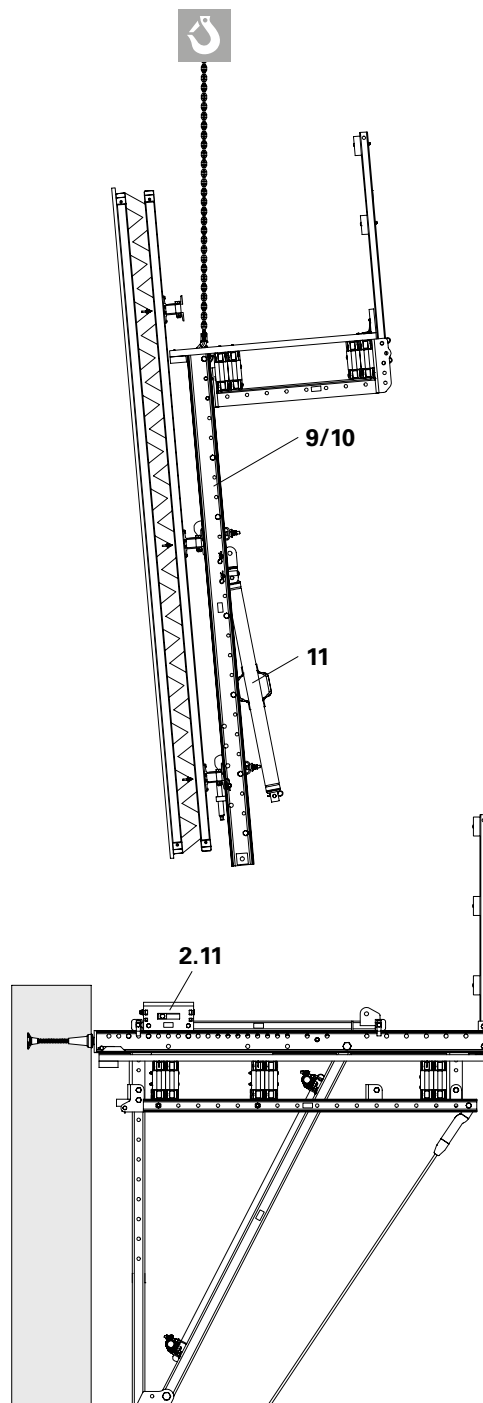

Fig. B7.01
6. Set down formwork unit on dismantling area and disassemble. (Fig. B7.01)